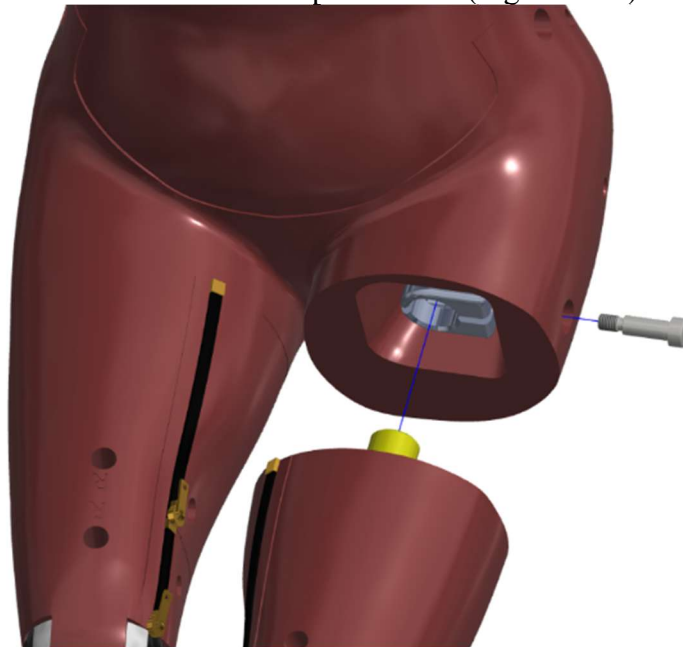
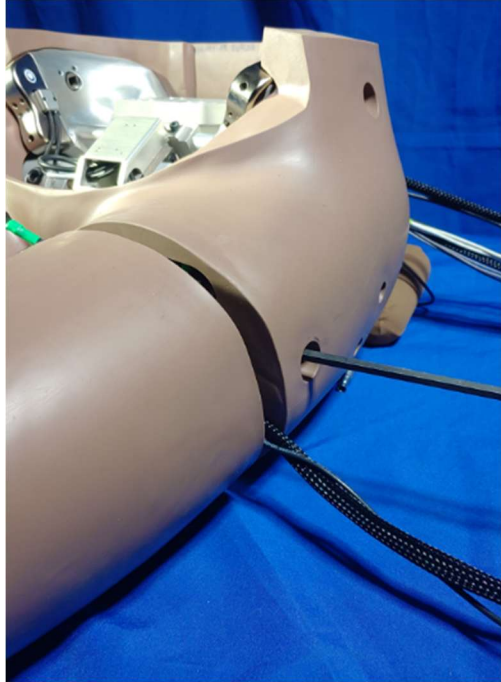

Figure 9-47. Insert upper leg into pelvis for attachment
Figure 9-48. Install upper leg to pelvis
- 9.4.1 Slide the Left Femur Attachment Plate (474-5161) into the Left Femur Assembly (474-4700-1) so that dowel pins on the attachment plate lock into the slots on the hip cylinder (Figure 9-47). Secure the upper leg with an M12 X 30 LG. SHSS inserted on the outer pelvis flesh (Figure 9-48).